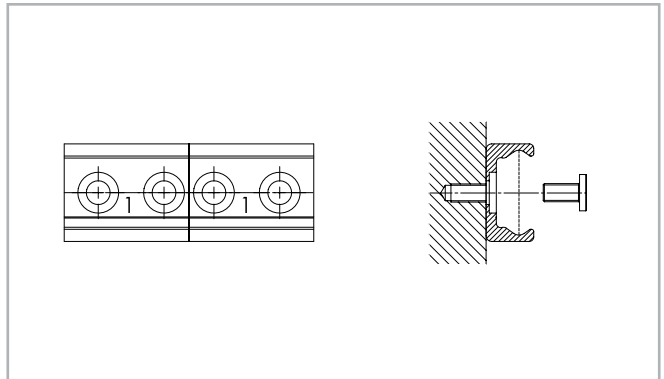

Fig. 173
- (1) Fix the individual rails on the mounting surface by tightening all screws except for each last one on the rail joint.
- (2) Install the end fixing screws without tightening them (see fig. 173).